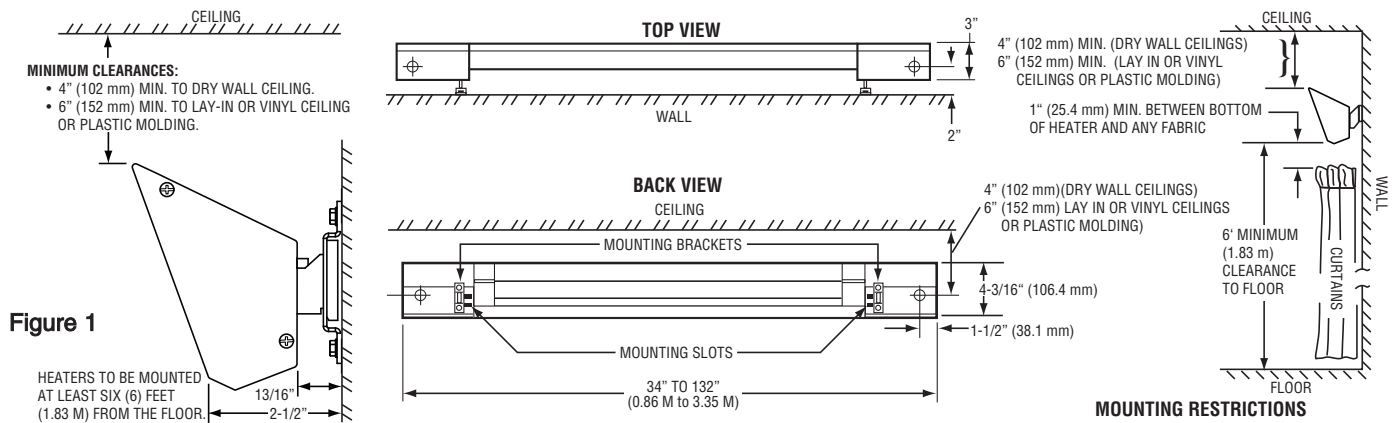
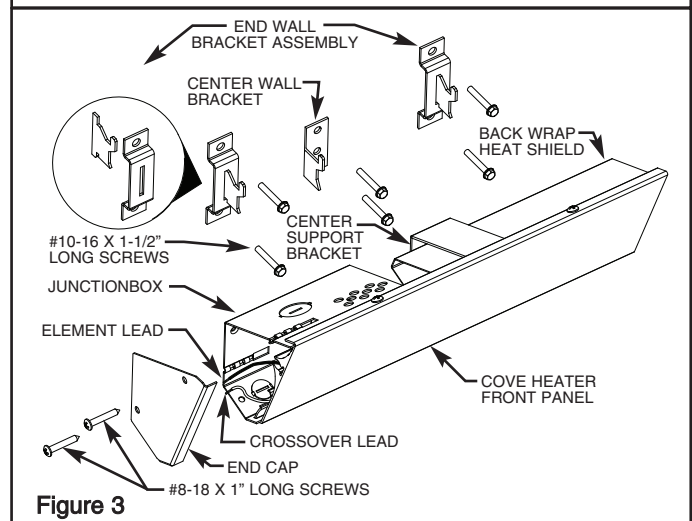

Figure 1
Figure 3
2. TO PREVENT POSSIBLE OVERHEATING OR DAMAGE DUE TO OVERHEATING, REFER TO FIGURES 1 AND 4 FOR SIDE, TOP, AND BOTTOM CLEARANCE REQUIREMENTS.
1. Select correct mounting distance from the ceiling material per Figure 1. Using Table 1, determine the center to center distance of the end wall brackets for the particular model (wattage) to be mounted. Divide this value by 2 to determine the approximate location to mount the center wall bracket. Mark these locations on the chosen wall. Locate a stud nearest the center wall bracket mark. Use this stud for the bracket location. (Disregard original mark mentioned above) Assemble end wall brackets as shown in Figure 3.
- Attach end caps (found in parts bag) as shown in Figure 3.